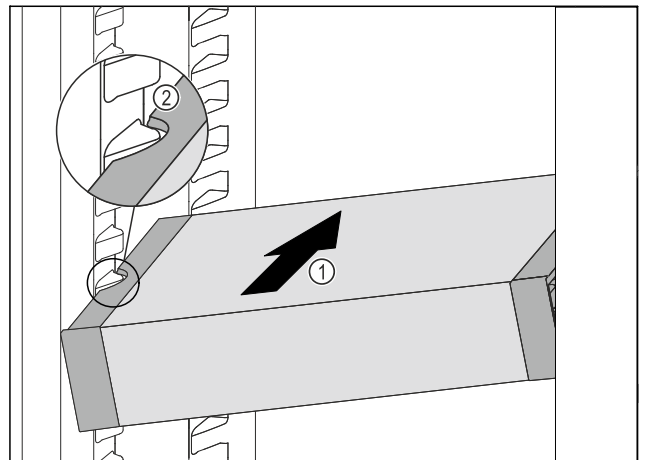

Fig. 53
- Insert the VarioSafe into the refrigerator compartment at an angle Fig. 53 (1) until the recesses in the side panel Fig. 53 (2) of the VarioSafe are at the level of the support rib in the refrigerator compartment.